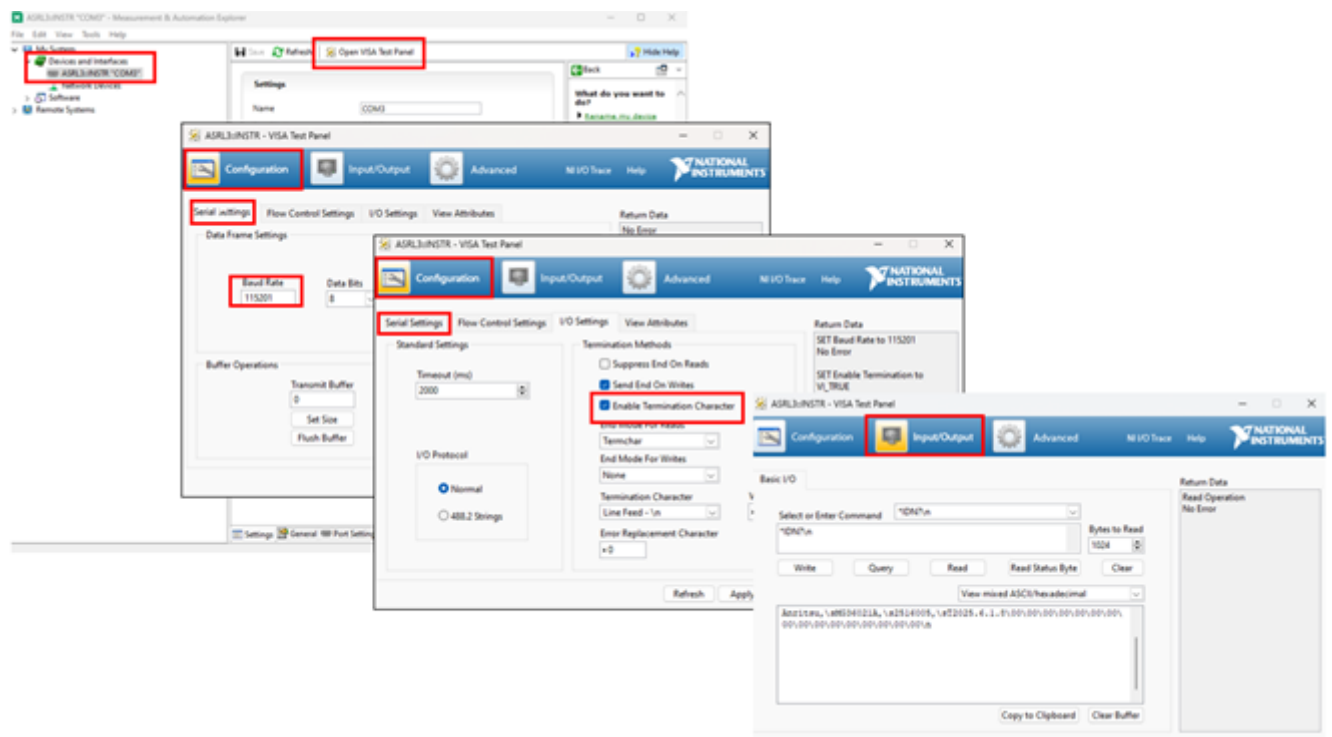

Figure 3-2. Setting Parameters in NI Max Software
3. Select the Open VISA Test Panel as shown in Figure 3-2.